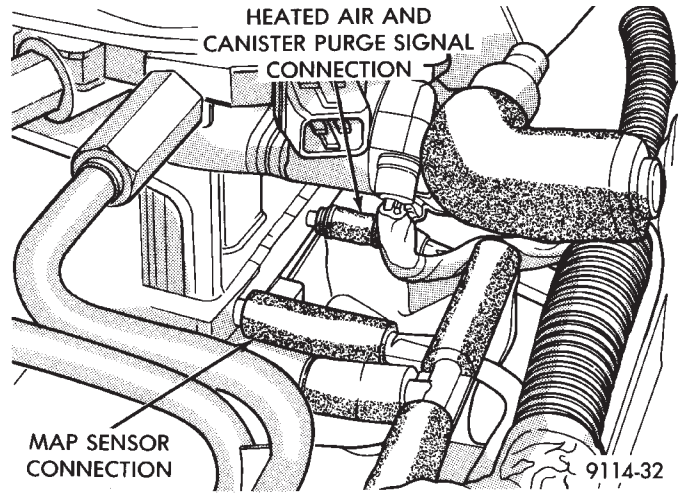

Fig. 10 Throttle Body Vacuum Ports—Front
(15) Verify vacuum connections on the front and rear of Throttle Body are secure and not leaking (Figs. 10 and 11).